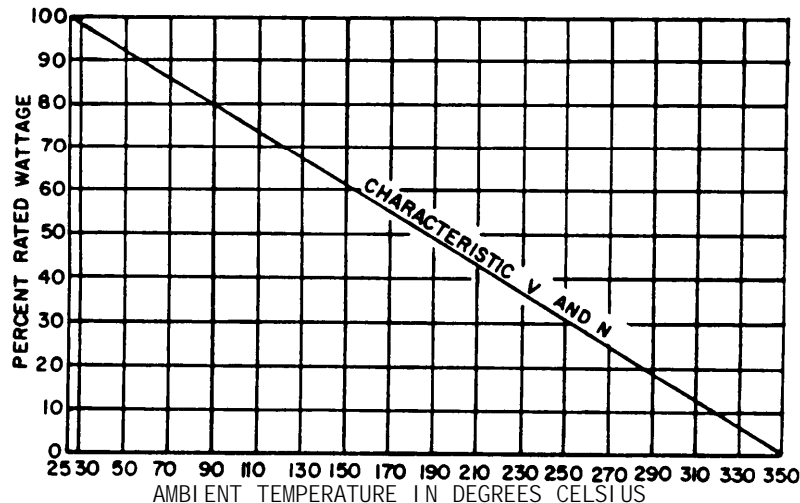

FIGURE 101-1. Derating curve for high ambient temperature.
2.1.2 Power rating. These resistors have a power rating based on a continuous rated-wattage operation at an ambient temperature of +25°C, without exceeding a hot spot temperature of +350°C. If these resistors are to be operated at an ambient temperature greater than +25°C, the resistors should be derated in accordance with figure 101-1.